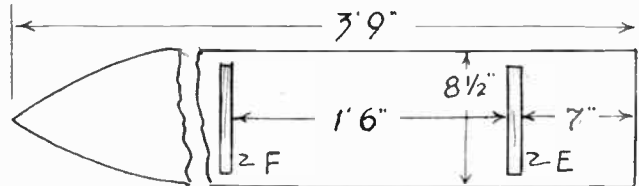

Fig. 2—The ironing board, with position of cross pieces
The ironing board, Fig. 2, is cut to the shape shown from a single board of  $\frac{3}{4}$  in. deal. Where shown at (F) screw across a piece of wood,  $\frac{3}{4}$  in. thick and  $1\frac{1}{2}$  ins. wide, just 7 ins. in length. The bar (E) to which the outer legs are pivoted, is screwed across also, where shown.